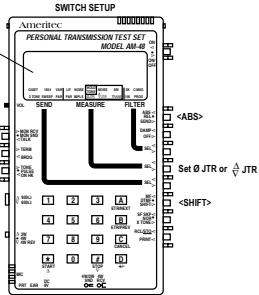

Figure 7-8. Phase J1TR and Amplitude J1TR MEASURE Displays
2. See Figure 7-8. Set switches per the SWITCH SETUP illustration, and set the MEASURE cursor per the top menu illustration (PHASE JITTER DISPLAYS).
2. See Figure 7-8. Set switches per the SWITCH SETUP illustration, and set the MEASURE cursor per the bottom menu illustration (AMPLITUDE JITTER DISPLAYS).